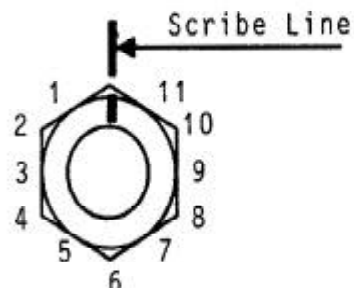

Fig. 2
5. Scribe a line on a convenient point of the nut and cylinder head as shown in Fig. 2.